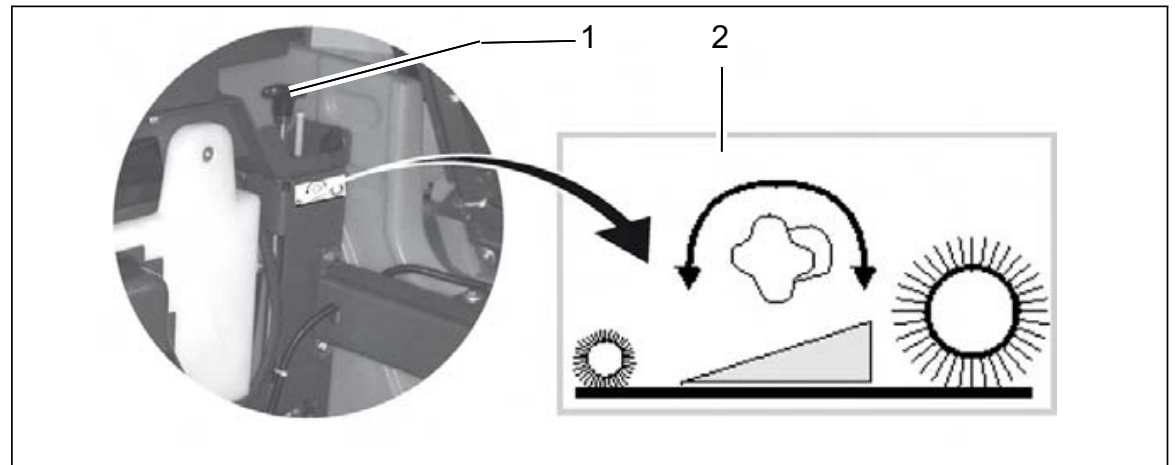

Fig.16
The sweeping track width can be adjusted at the star-shaped knob (Fig. 16/1) as follows:
- Turn star-shaped knob (Fig. 16/1) to the left = wider sweeping track to the right = smaller sweeping track (Sweeper adjustment sticker (Fig. 16/2))